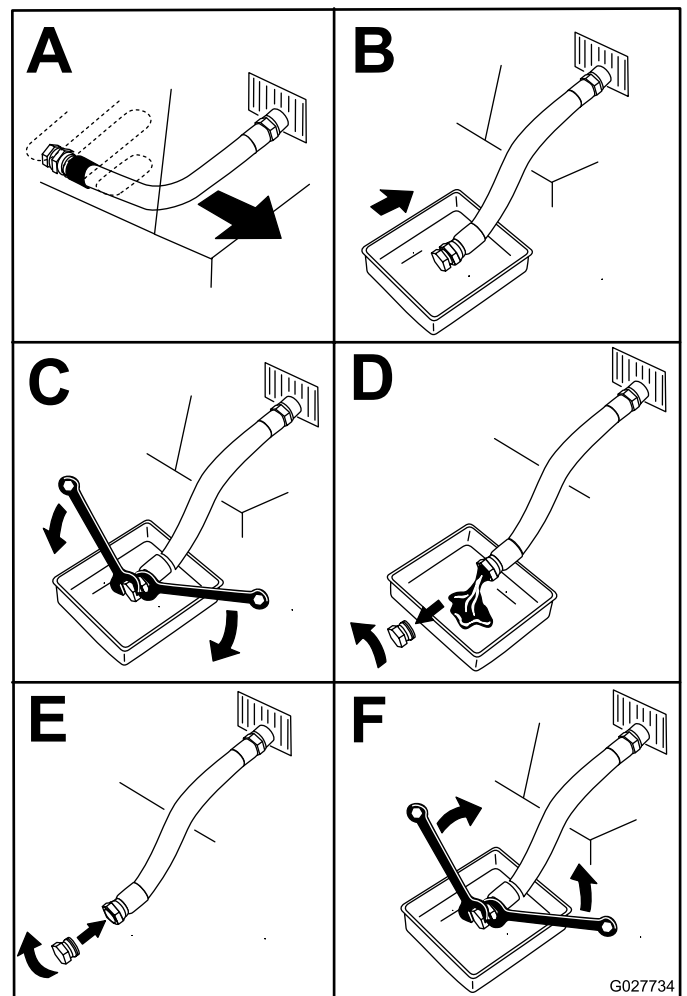

Figure 67
5. Drain the oil from the engine (Figure 67).